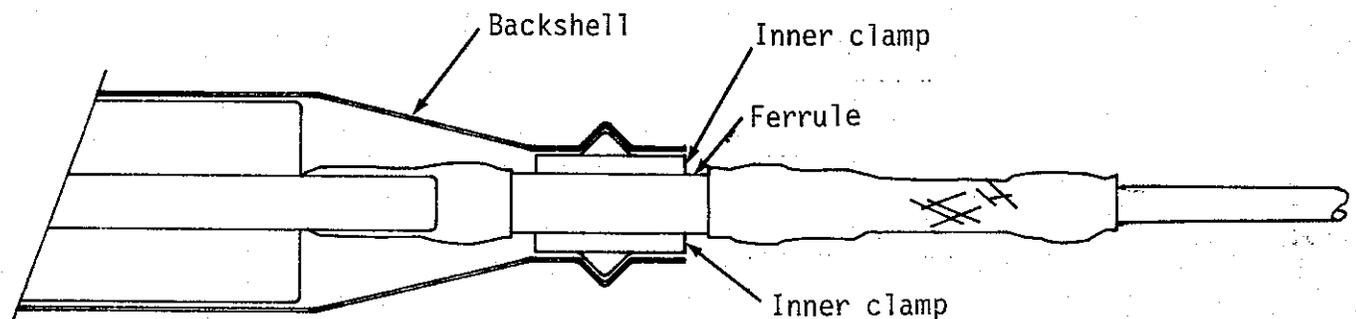

Figure 5-10. Position of Grounding Ferrules Between Clamps
- o The cutouts in the inner clamps must line up with the grounding ferrules on the cables (Figure 5-10).